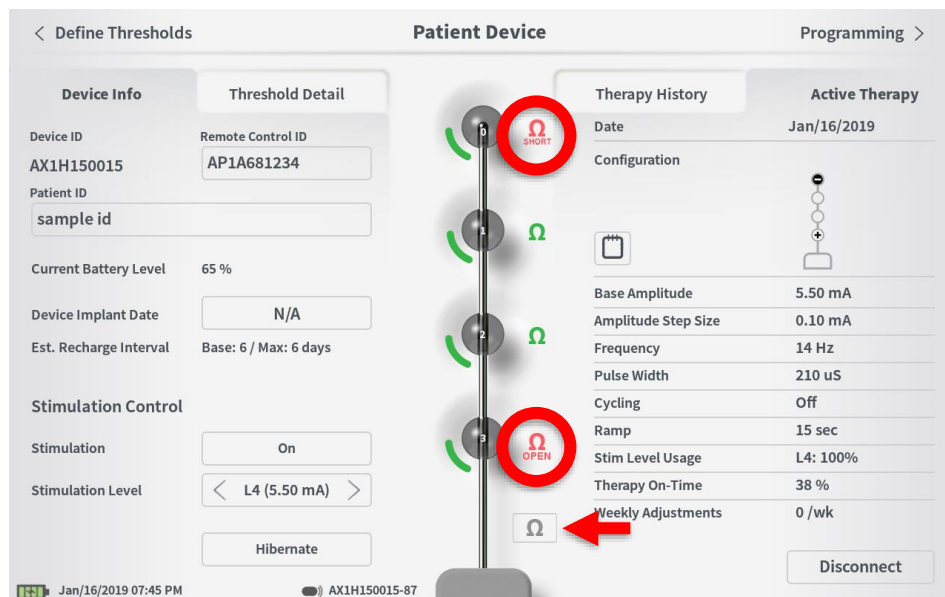

Figure 4: "Patient Device" screen on the Clinician Programmer
- Perform an impedance measurement. Press the "Ω" button on the Patient Device screen of the Clinician Programmer (indicated by the red arrow in Figure 4) to determine the integrity of the patient's Neurostimulator.
- If open or short circuits are detected, the "Ω" symbol next to that electrode will be red (highlighted with red circles in Figure 4), indicating that the integrity of the patient's SNM system is compromised. This patient is **NOT** eligible for MRI whole-body scan.